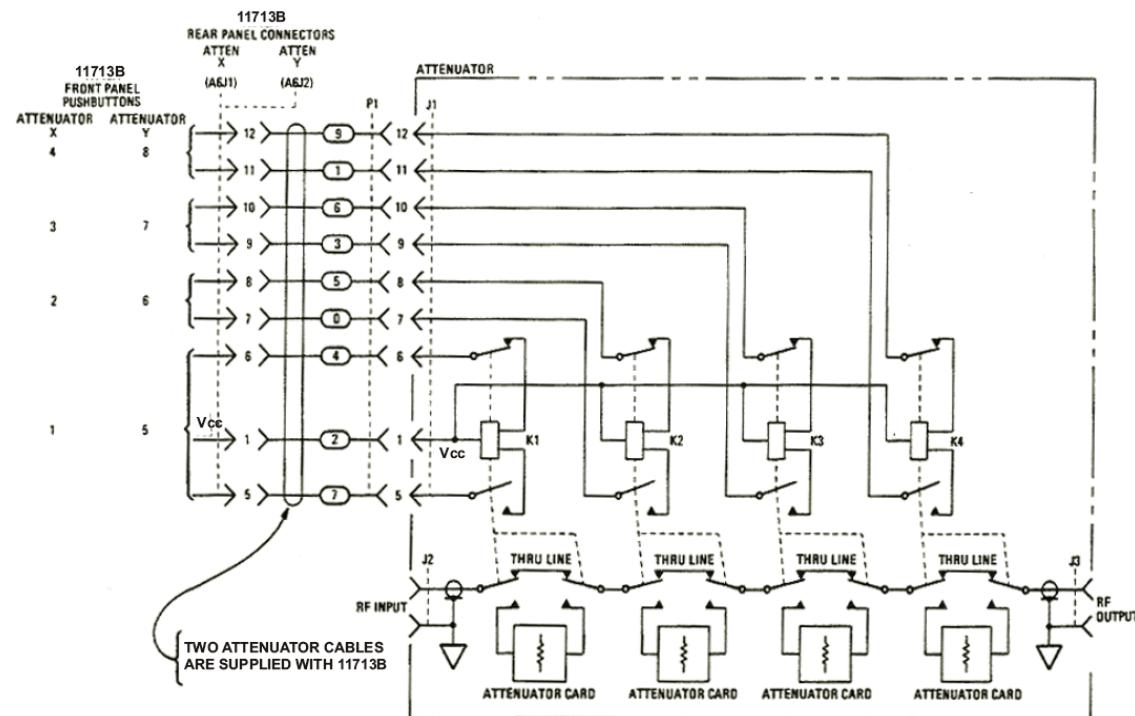

Figure 2-4 Typical connection for a programmable four-section attenuator
- A typical connection for a programmable four-section attenuator to 11713B is illustrated in Figure 2-4, together with pin number for each connector.
- Connections to Keysight 8762 or 8765 series coaxial switches can also be made to the ATTEN X output or ATTEN Y output as illustrated in Figure 2-4.